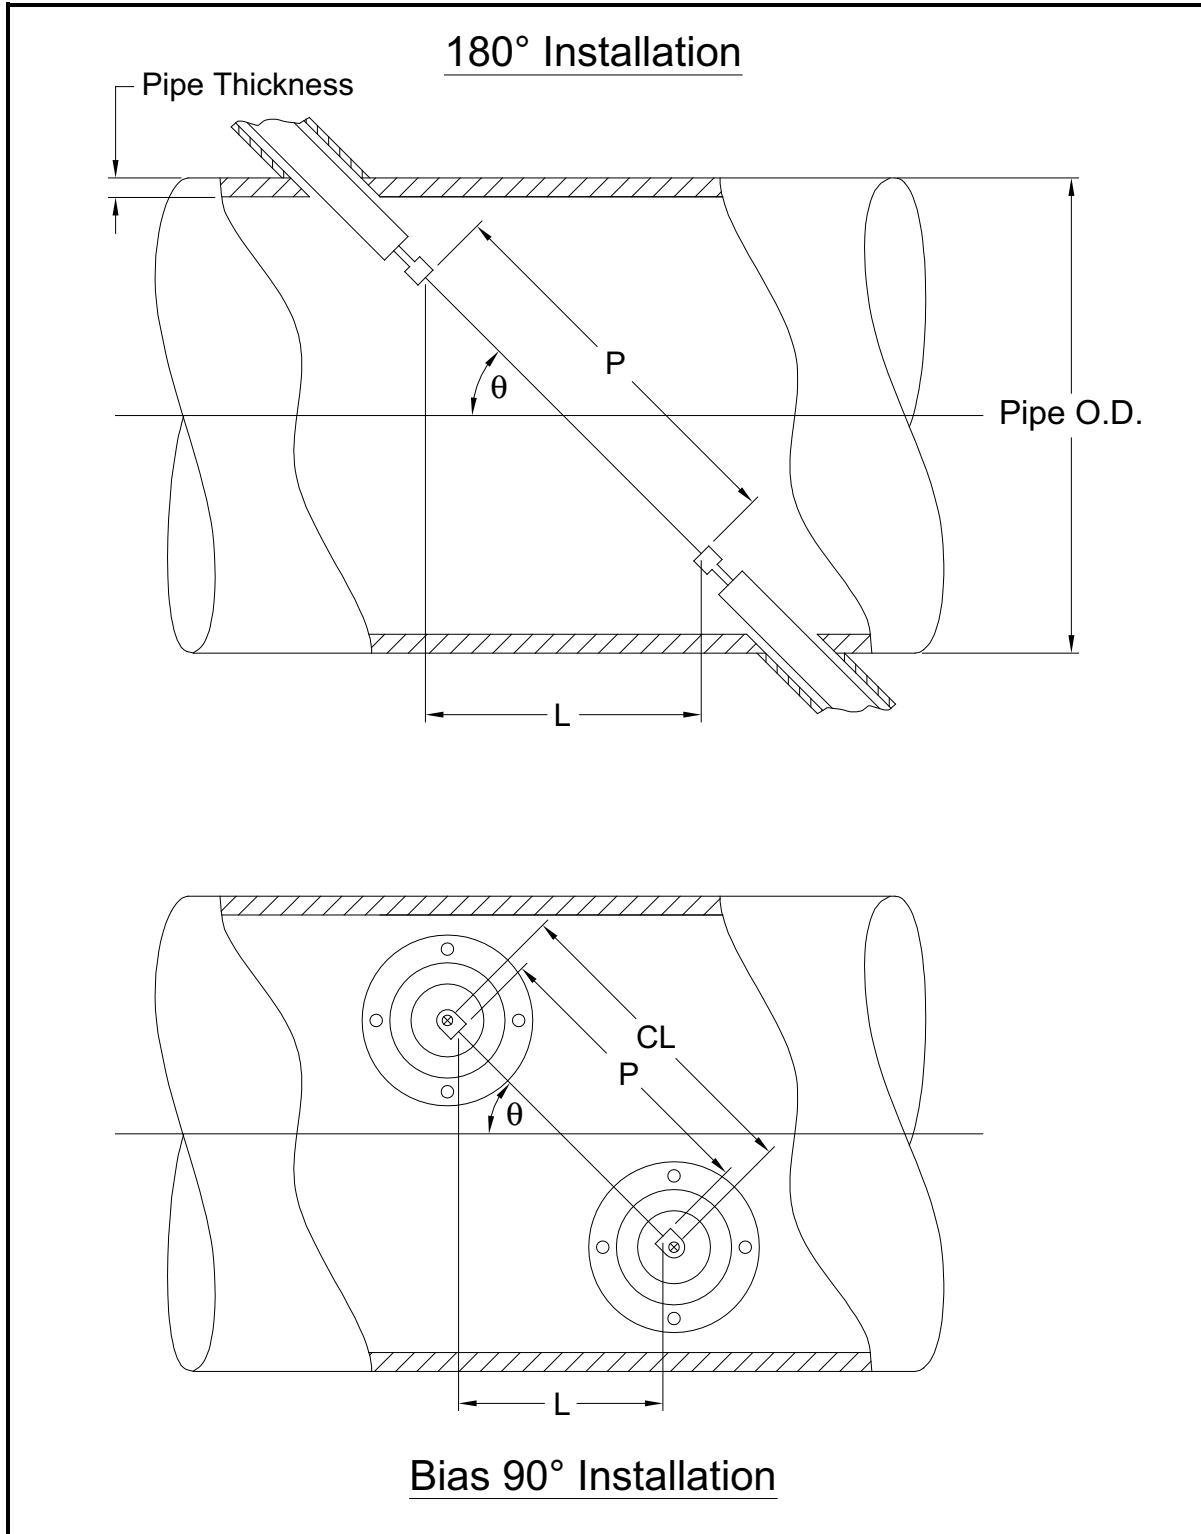

Figure 18: Top View of Typical Transducer Installations
The accuracy of the programmed P and L values is critical to precise flow rate measurements. If Panametrics supplies the flowcell for the system, the correct values will be included in the documentation supplied with the system. For transducers installed on an existing pipe (see Figure 18 on page 56), P and L must be measured at the site. This appendix provides instructions for properly determining these dimensions.
Whenever possible, physically measure the face-to-face distance (P) and the axial distance (L) between the centers of the flat faces of the transducers. Refer to *Figure 18 on page 56* for an illustration of the proper distances to measure, in a typical installation.
With a Bias 90° transducer installation, it sometimes happens that the only known parameters are the transducer angle ( $\theta$ ) and the centerline distance between the transducer bodies (CL). In these cases, it is still possible to calculate P and L by combining *Equation C-1* above with the additional *Equation C-2* below (see *Figure 18 on page 56*):